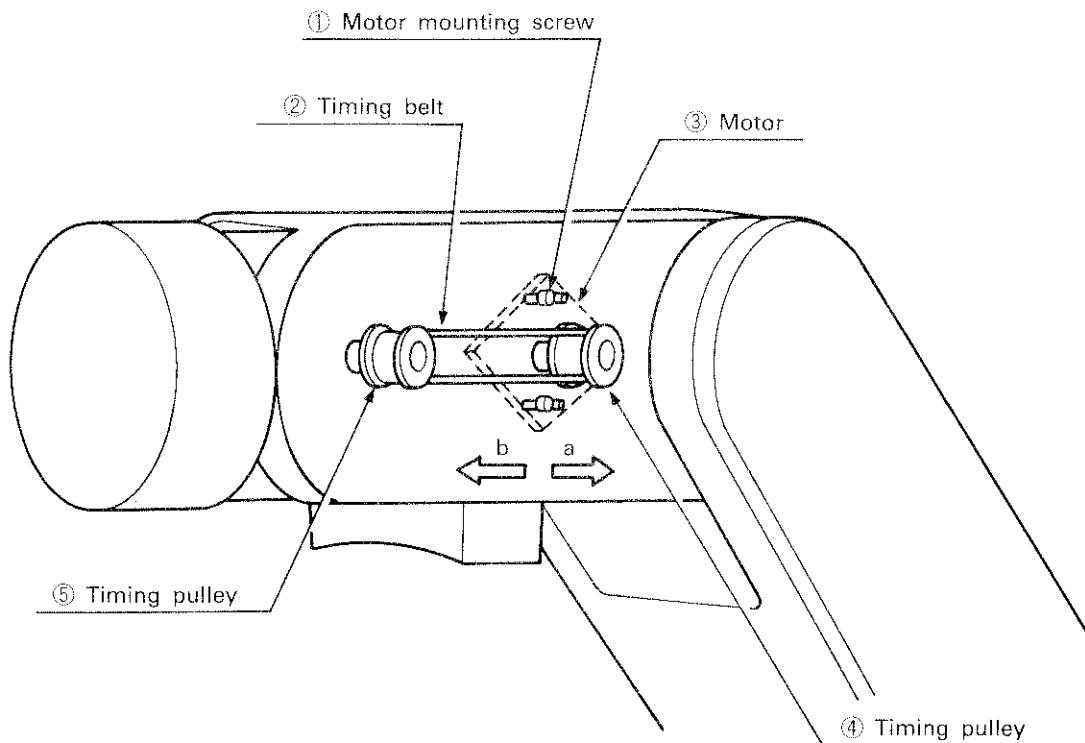

Fig. 4.3.12 Checking, Adjusting, and Replacing the Wrist Pitch Drive Timing Belt
pitch drive timing belt (1) Fig. 4.3.12 outlines the inspection procedure of the wrist pitch drive timing belt.
- (2) Remove the upper pulley cover by referring to 3.2 Removal of the Covers.
- (3) Visually check the belt to make sure that it does not develop any of the symptoms given in (1) to (5), 3.4.1
- (1) Fig. 4.3.12 also outlines the adjustment procedure of the wrist pitch drive timing belt.
- (2) Loosen the two motor mounting screws ①.
- (3) While feeling the tension in the timing belt ②, move the motor ③ in the directions shown by arrows "a" and "b". Note that the motor ③ is secured using the two screws in the slots so they can be moved in the slots.
- (4) Moving the motor in the direction shown by arrow "a" tightens the belt; moving it in the direction shown by arrow "b" slacks the belt.
- (5) Do not move the motor too far in direction "b", or the belt ② comes off the timing pulleys ④ and ⑤.
- (6) After the belt tension has been adjusted, tighten motor mounting screws ① securely. A loose motor mounting screw results in the belt slackening off.
- (1) Fig. 4.3.12 also outlines the replacement procedure of the timing belt.